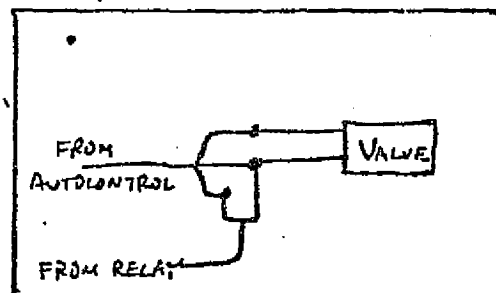

Figure 15: CASCADE Valve Electrical Connections
c. Pass both leads through the Romex and connect together as follows: (See Figure 15)
- (1) One valve wire to the valve/heater control wire marked "Valve".
- (2) One relay control wire to the valve/heater control wire marked "Relay".
- (3) Join the two remaining wires to the wire marked "Common".